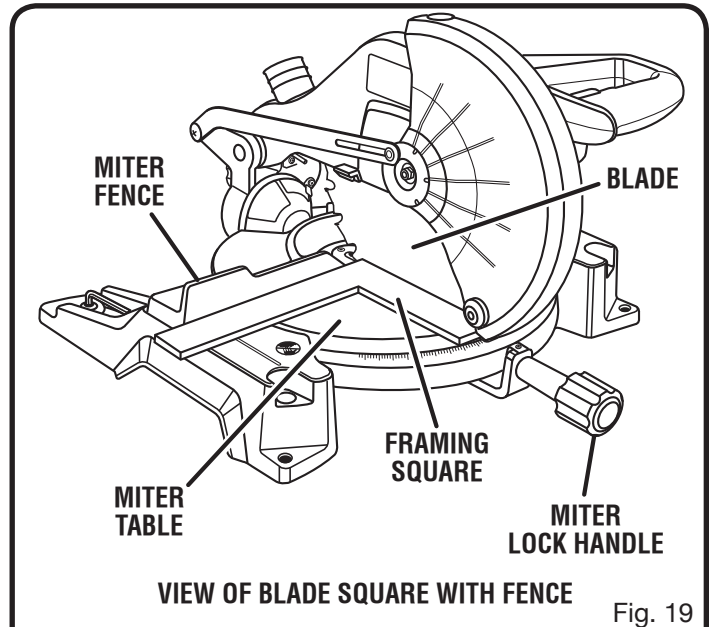

Fig. 19
- The edge of the square and the saw blade should be parallel as shown in figure 19.